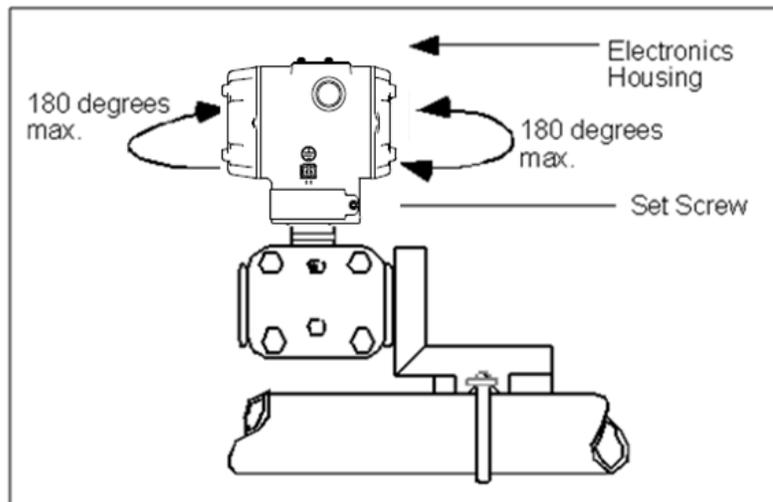

Figure 48 – ST 700 Basic Transmitter - Rotating the Electronics Housing
Once the transmitter is mounted, the electronics housing can be rotated to the desired position. See Figure 48 for details.
7. Loosen the set screw on the outside neck of the Transmitter one (1) full turn.
8. Rotate the Electronics housing a maximum of 180° left or right from the center to the position you require, and tighten the set screw using a 4mm metric socket head wrench. See the following example and Figure 48.